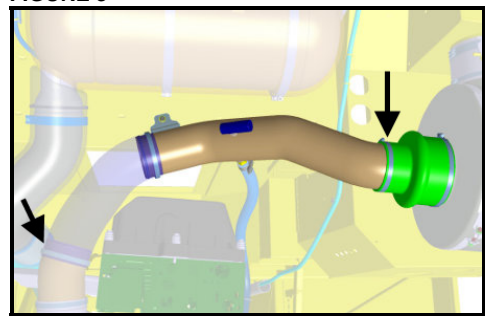

FIGURE 4
4. Remove the hose clamps (2 clamps, fig.4) at the air filter housing and the turbocharger inlet. Remove the air intake pipe as an assembly.